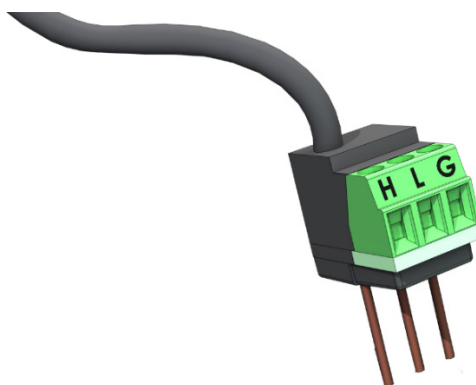

FIGURE 6-2. 4WPB100 Module
The CR1000 and CR9000(X) require the 4WPB100 module (FIGURE 6-2) to interface the PT100 to the datalogger. Cable 1 is used to connect the pyranometer and pyrgeometer (TABLE 6-2 and TABLE 6-3). Cable 2 connects the PT100 to the 4WPB100 and datalogger (TABLE 6-4).